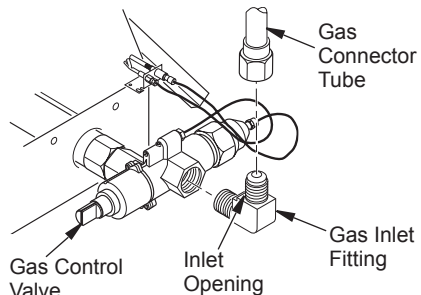

Figure 10 - Installing Inlet Fitting and Gas Connector Tube
3. Install the inlet fitting into the inlet opening of the gas control valve (see Figure 10). Use thread sealant on the male pipe threads.